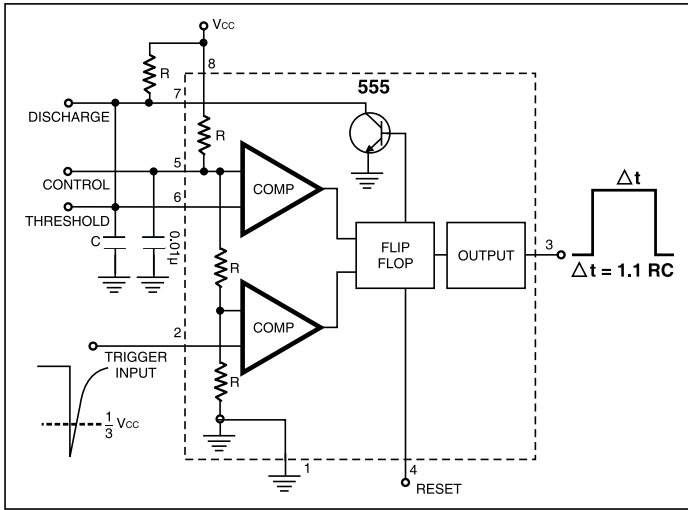

Fig. 3.3: Monostable operation configuration of 555
**Monostable mode:** A functional diagram of monostable operation is shown in Fig. 3.3. In this mode, a pulse of specific duration appears at the output. This mode is achieved by: